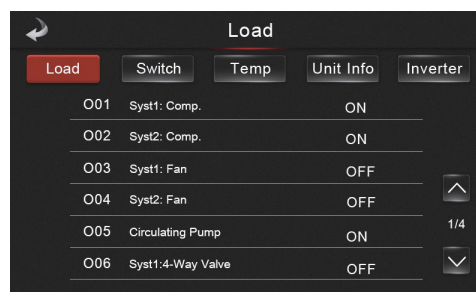

Fig.11-2 Unit Status interface
- To inquire about the unit status parameters, press **Switch**, **Temp**, **Unit Info**, **Load** OR **Inverter** (Fig.11-2).